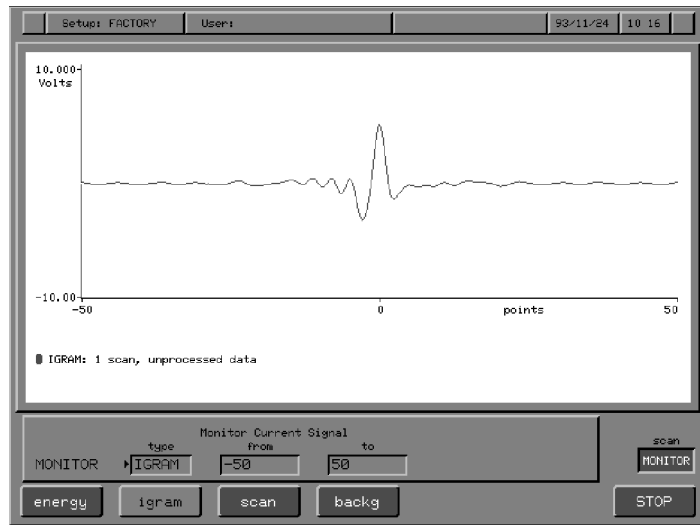

Figure 2-24 Monitoring the Centerburst
- Monitor only the centerburst** 1 If you want to monitor only the centerburst, press **center**. The display becomes similar to Figure 2-24.